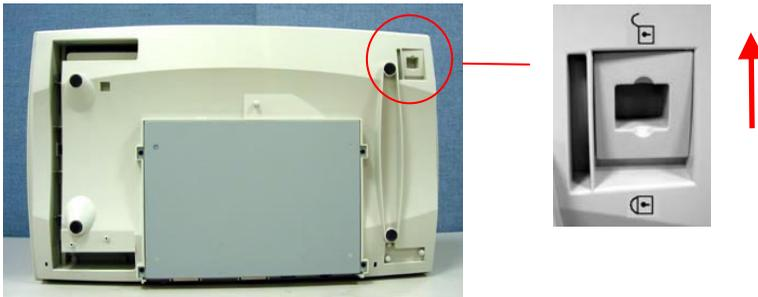

Figure 2-1 Unlock the Shipping Switch
2. Unlock the scanner by moving the lock switch beneath the scanner to the "Unlock" position (See Figure 2-1).